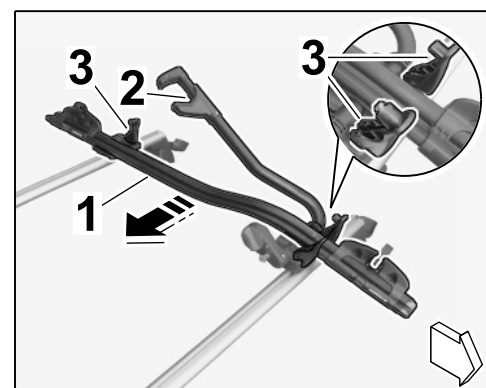

Figure 9
- 4.6 Carefully slide the bicycle rack onto the side of the vehicle on which you want to fit the bicycle (the open frame holder (claw) is facing the relevant side of the vehicle ⇒ *Figure 9-arrow-*).